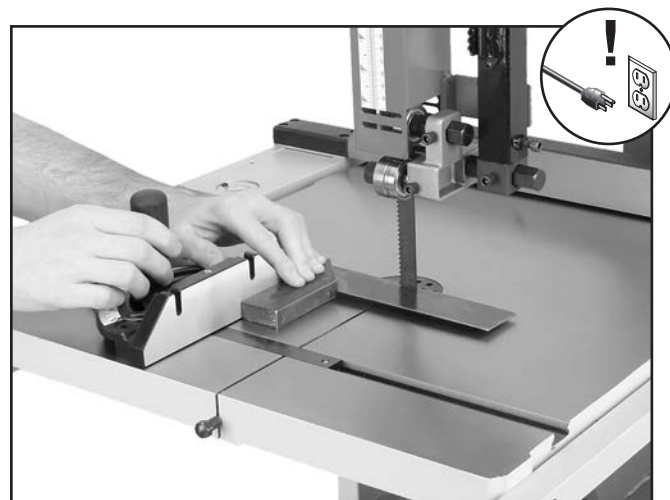

Figure 65. Example of squaring miter gauge to blade.
2. Place one edge of square against face of miter gauge and other edge of square against blade side, as shown in **Figure 65**.